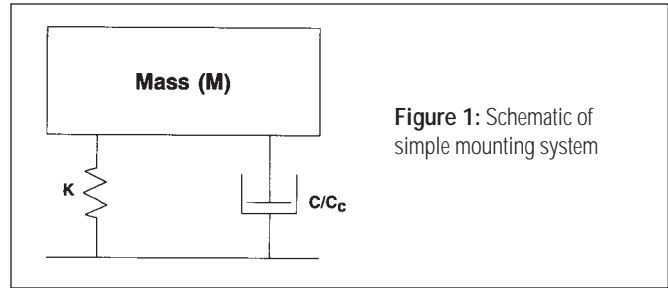

Figure 1: Schematic of simple mounting system
A simple mounting system (see Fig. 1) consists of a mass (M) supported on linear springs having a stiffness K. The idealized system includes a parallel damping element, having a critical damping ratio  $C/C_c$ . The Mass is assumed to be symmetrically supported about its center of gravity, and to vibrate only in the vertical direction.